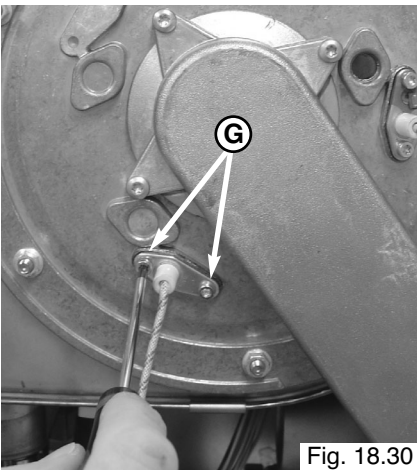

Fig. 18.30
2. Remove the 2 screws "G" from the electrode manifold (Fig. 18.30);